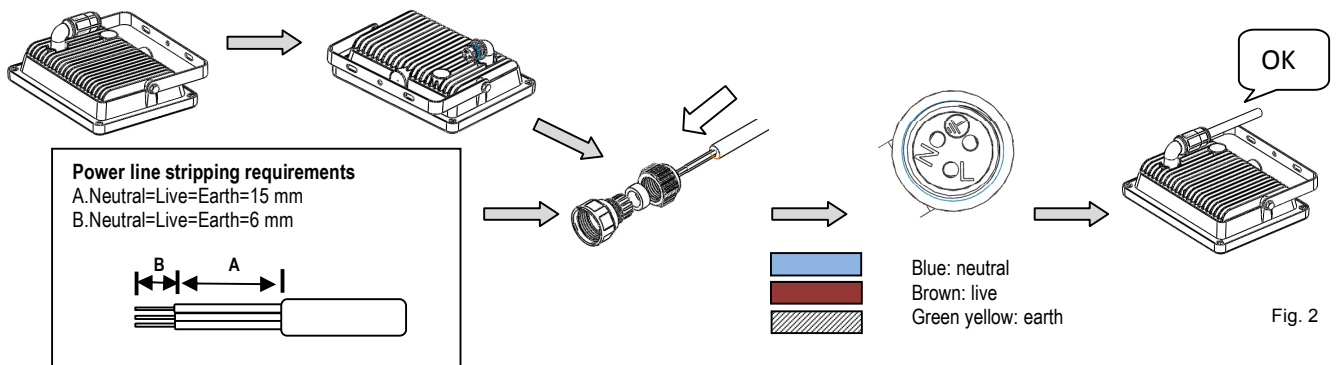

Fig. 2
9. Please see the assembly sequence in fig. 2